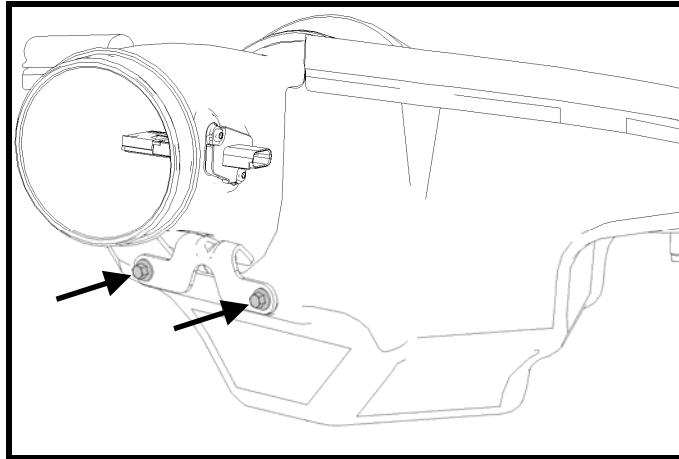

Fig. 32
**STEP 16:** Assemble the air tube and filter onto the airbox housing using two bolts (N605771) and torque to 10 Nm (88 lb in) (See Fig. 32).